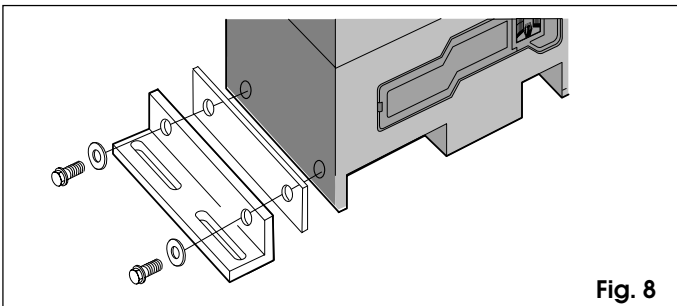

Fig. 8
- 1) Assemble the securing corner plates and anti-vibration spacers to the operator as shown in Fig. 8.